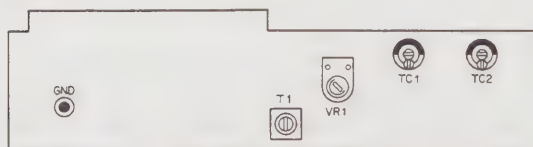

Fig. 36 CAR 1 unit
- 3) Adjust MIN GAIN until output becomes 50W and set the AG frequency to 250 Hz. Adjust VR1 in CAR1 unit (X50-1310-00) until RF VTVM reading is kept unchanged even when the MODE switch is changed over from USB to LSB and vice versa (refer to **Fig. 36**).